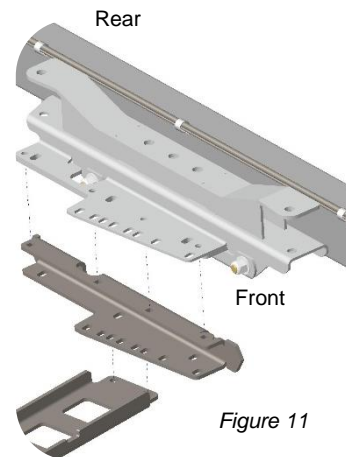

Figure 11
45. Install control arm mounting brackets to the frame (see figure 11 for front to rear orientation). Make sure mounting surface is flat and free of debris. Use the M12 x 40 flat head bolts from hardware kit 118. Use high strength threadlocker and tighten the bolts very tight.
47. The belly height in this kit is extremely adjustable. Anything from a flat belly to 3" drop can be achieved using a combination of spacer plates and spacer brackets (see figure 11, 12 and 13). Flat belly configuration will require a body lift or floor pan modification. Many late model transmissions will require a 2" drop bracket (see figure 11). *2" drop is still 1.5" higher than the stock belly height.* Hardware kit 120 contains the longer bolts needed for the drop spacers.